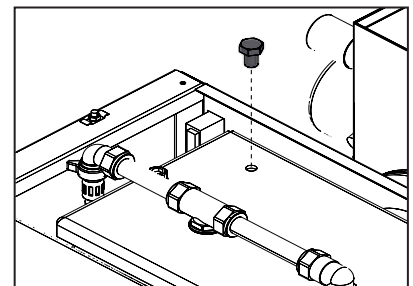

Figure 10-16: Combustion test point
- Remove the screw from the combustion test point, located at the left rear corner of the rear access cover (on the secondary heat exchanger). Refer to Figure 10-16.